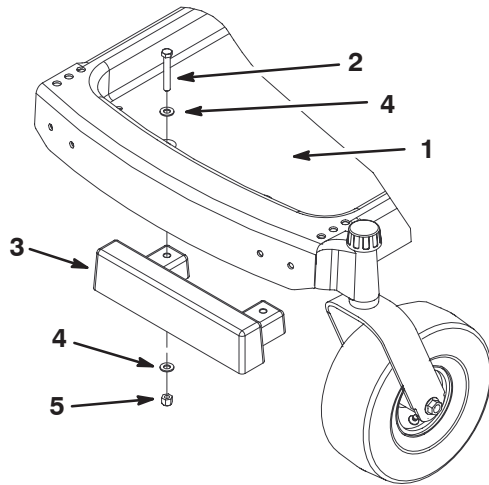

Figure 3
2. Install the front weight to the bottom footrest frame with 2 bolts (3/8 x 2-1/4 inch), 4 washers (3/8 inch) and 2 nuts (3/8 inch) (Figure 3).
Note: Make sure the weight is installed as shown in Figure 3.